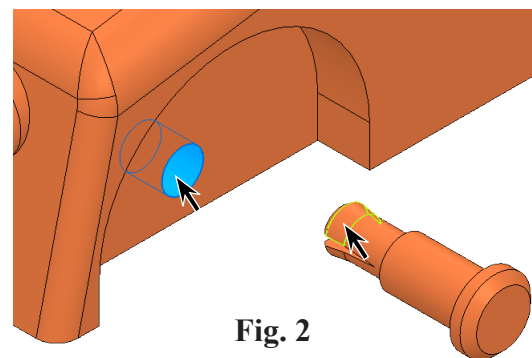

Fig. 2
Step 3. Click **cylindrical face of Axle hole in Truck** and a **cylindrical face of Axle**, **Fig. 2**.